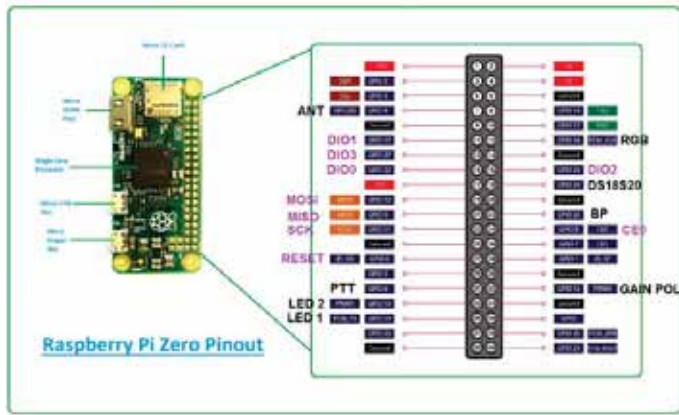

Figure 19 – GPIOs used on RPI Zero.
- Connector J9 is dedicated to controlling the power amplifier. Only the PTT output is used. Software gain control is not currently supported. [Figure 19]